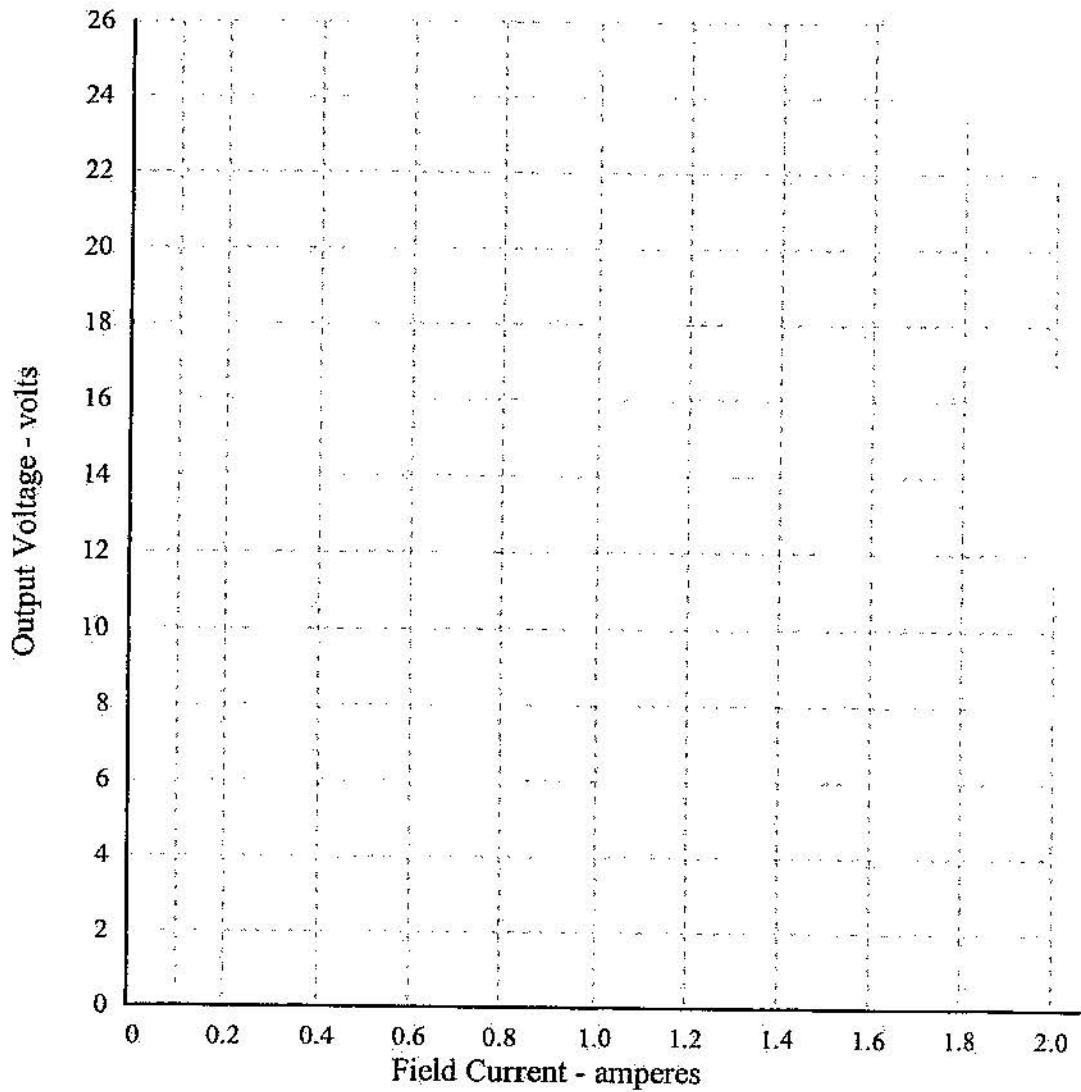

Figure 4
1. Using the axis of figure 4, draw the no-load characteristics of the generator at both 1400rpm and 700rpm.